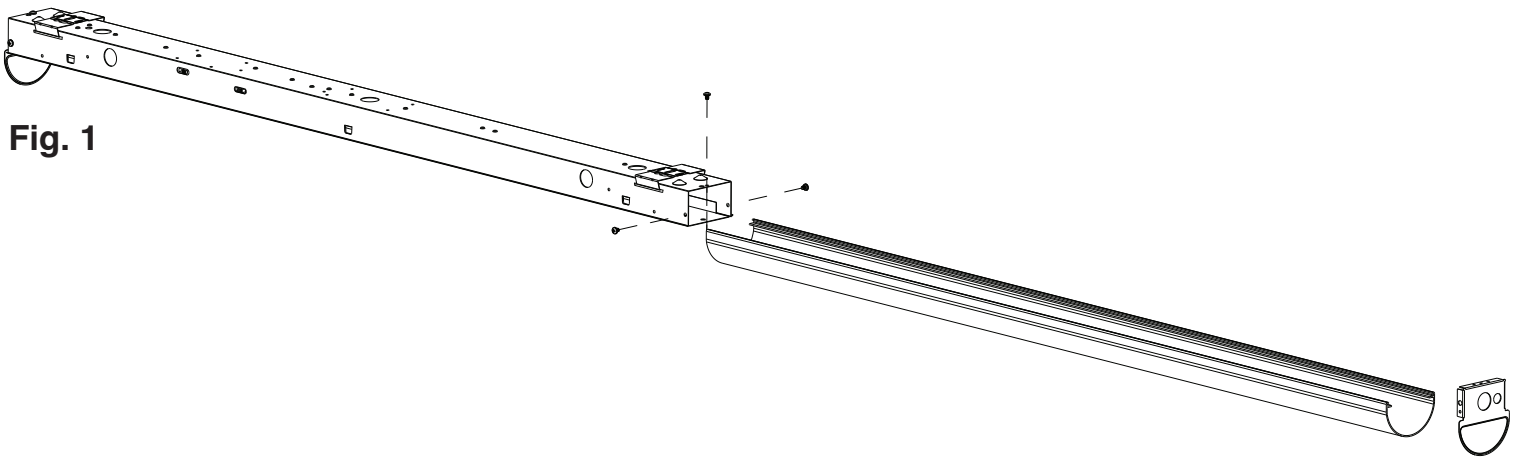

Fig. 1
1. Remove the three (3) screws on one of the two endcaps. Remove the endcap and slide the lens out to access the USB-C receptacle next to the LED board (see **Fig. 1**).